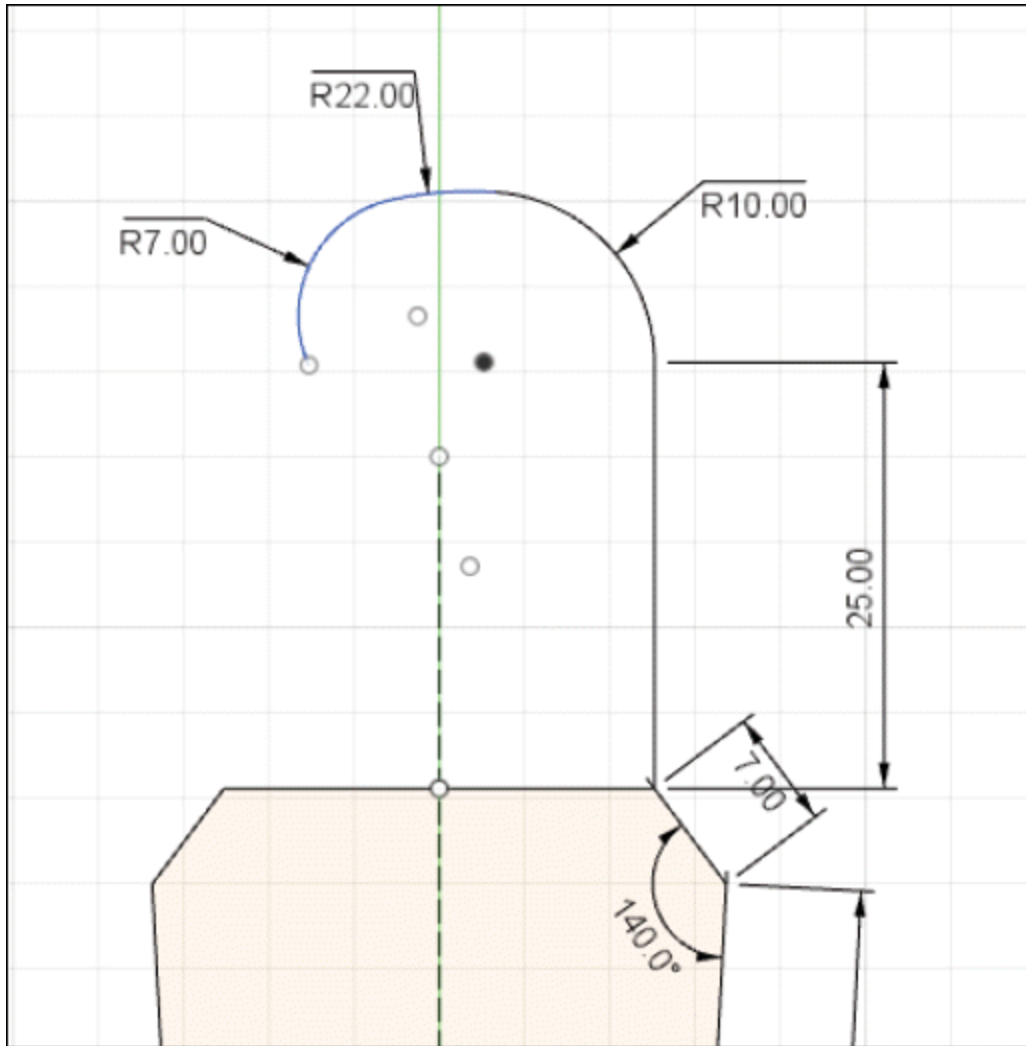

Figure-130. After sketch dimension on arc
- Apply radius dimensions to three arcs as **10**, **22**, and **7**, respectively; refer to Figure-130. Make sure horizontal and vertical constraints are applied to the straight lines in the sketch.